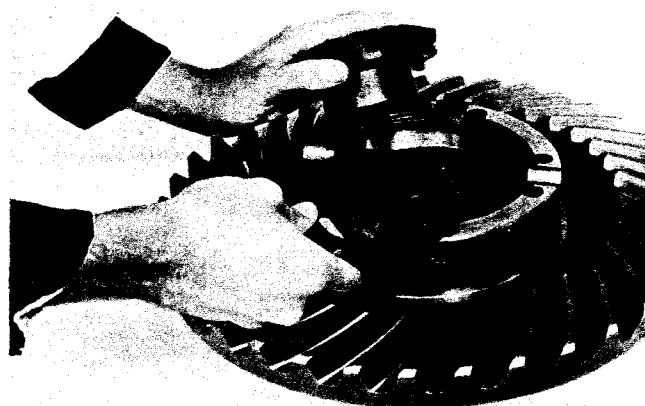

FIG. 94
4. Lubricate and install thrust washer and side gear in differential case and ring gear assembly (Fig. 94). Be sure hole in side gear thrust washer engages dowel projecting from thrust washer bearing surface in differential case half.